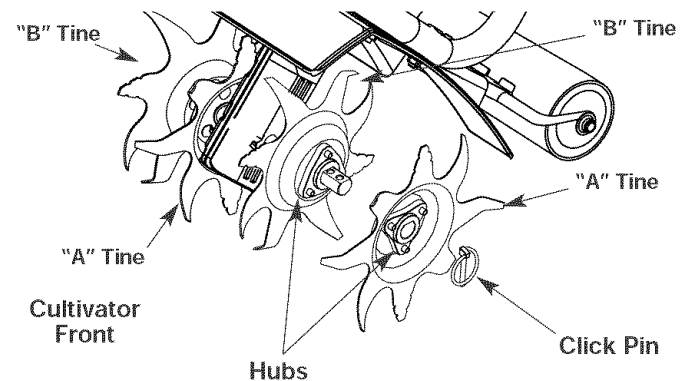

Fig. 12a
- Remove the click pin from each end of the tine shaft. Slide the tines off the shaft (Fig. 12a).
- Using Figures 12a and 12b for reference, slide on the new tines with the **hubs facing outward**.